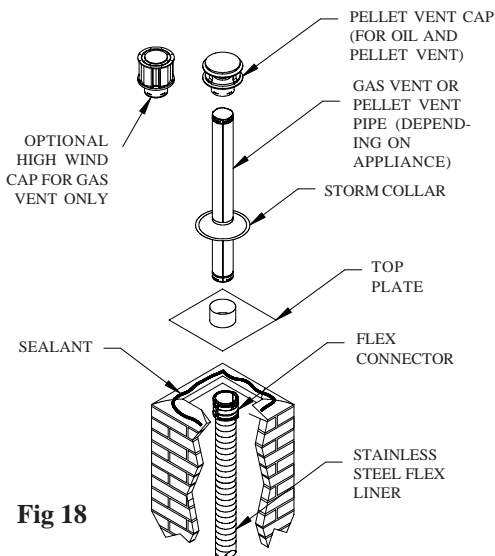

Fig 18
sheet metal screws equally spaced at 90 degrees (do not penetrate inner liner). The Storm Collar will rest on the Top Plate and serves as the support for the Flex Liner system. This system is listed by OMNI Test Laboratories to support up to 50 feet of Flex Liner or rigid Pipe Sections. See **Figure 18**.
Step 4. Seal the Storm Collar where it meets the Pipe Section using 500RTV non-hardening sealant, then twist-lock the appropriate Termination Cap to the Pipe Section. As an alternative to the standard cap, you may want to install a High-Wind Termination Cap (gas only) in areas where wind may be a concern. (**Figure 18, 19**)